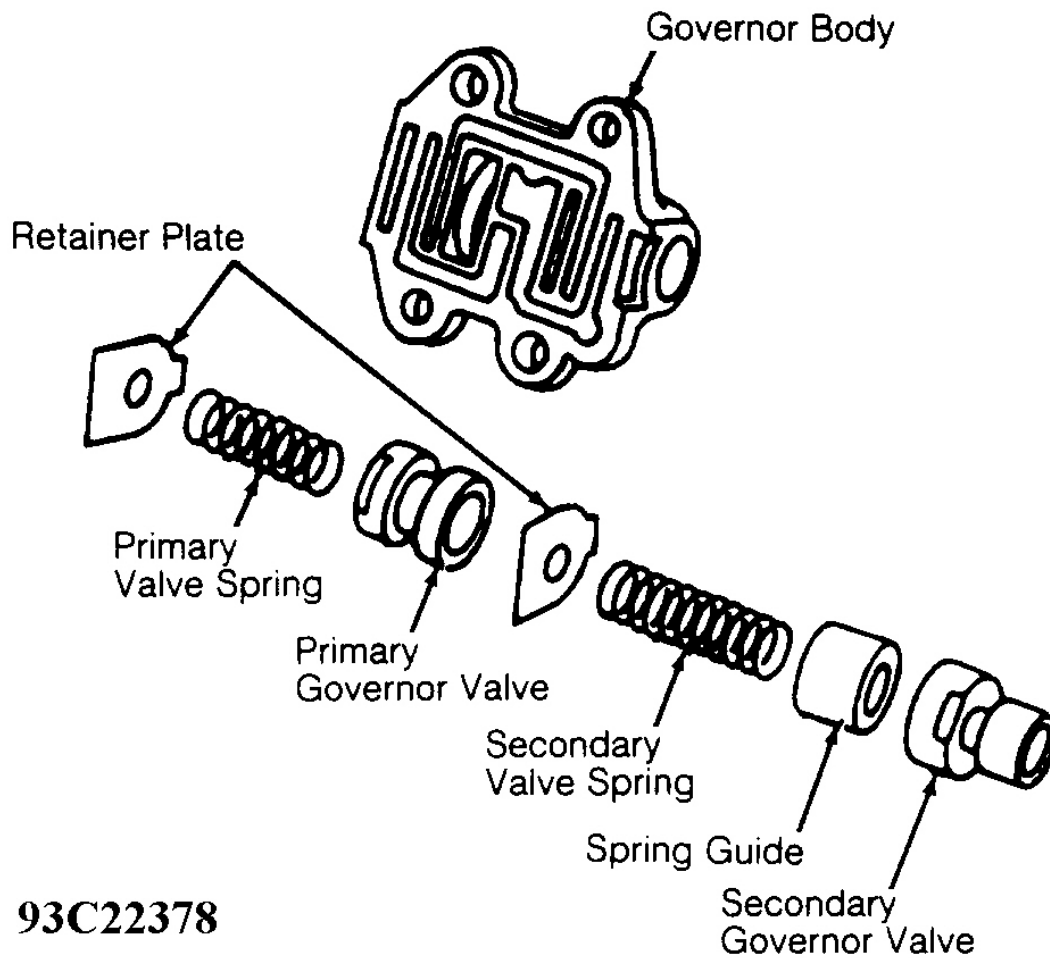

Fig. 17: Exploded View Of Governor Assembly
2. Disassemble governor valve body, arranging components in order of disassembly. DO NOT interchange primary and secondary governor components. See **Fig. 17**.